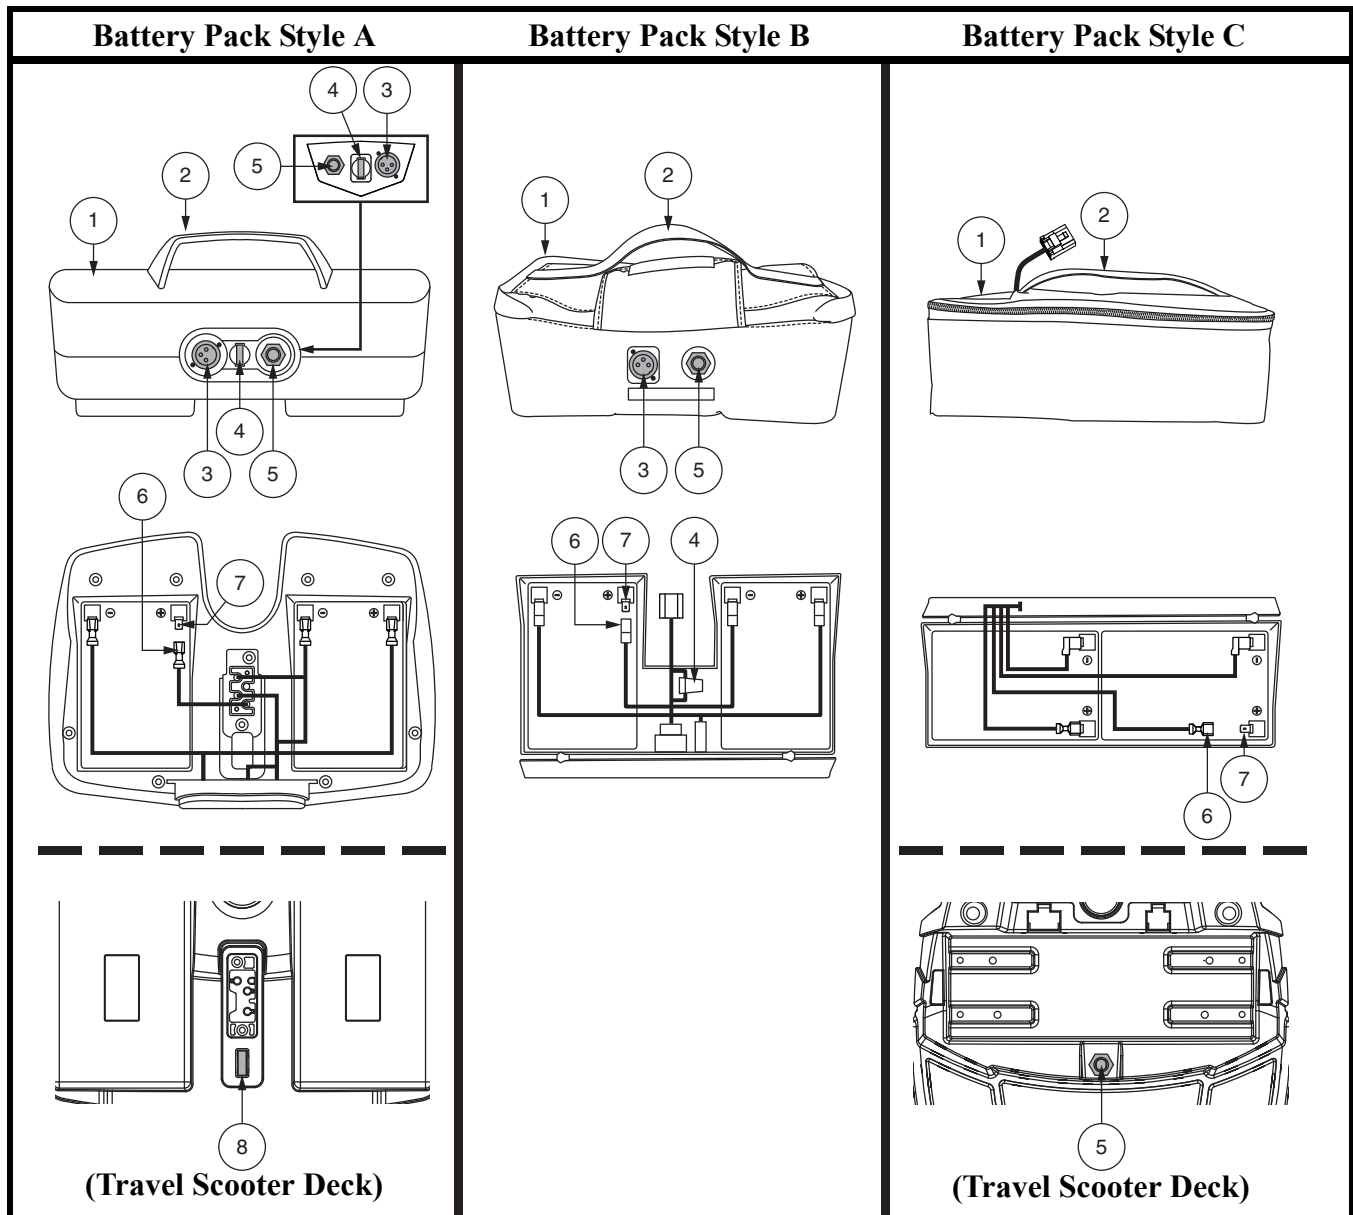

Figure 6. Battery Pack
When the voltage in your Travel Scooter's batteries becomes low or the Travel Scooter is heavily strained because of excessive loads or steep inclines, the main circuit breaker may trip to protect the motor and electronics from damage. **See figure 6.**
Your Travel Scooter is equipped with an innovative, easy-to-remove battery pack. A handle on the top of the battery pack makes it easy to lift the pack off of the Travel Scooter with one hand. The battery pack contains two rechargeable batteries, and may contain the charger power cord receptacle, the main circuit breaker (reset button), and the battery pack fuse. See **figure 6**.
The fuse located under the battery pack protects the tiller console electronics. See figure 6. In the event any component of the tiller console is not responding, check this fuse. See VII. “Basic Troubleshooting” for fuse replacement instructions.
- Ensure that the fuse on the battery pack is in working condition. See figure 6 or 7.